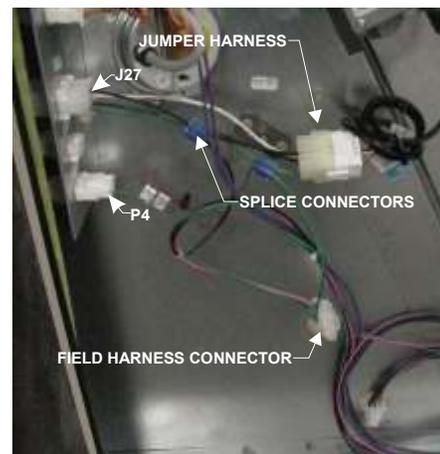

Figure 3
5. Disconnect plug P4 from connector J4. See Figure 3.
6. Install the provided ERS field harness between J4 and P4 by plugging P27 into J4, plugging J27 into P4 harness. **See Figure 3.**